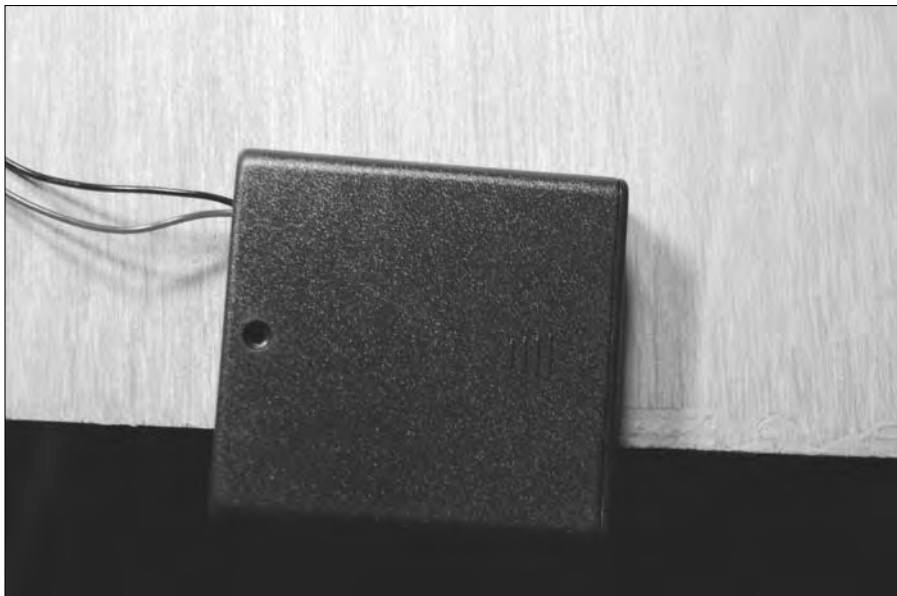

Figure 10-22:
17. Attach Velcro to the battery pack and the plywood so that you can attach the battery pack to the plywood, as shown in Figure 10-22.